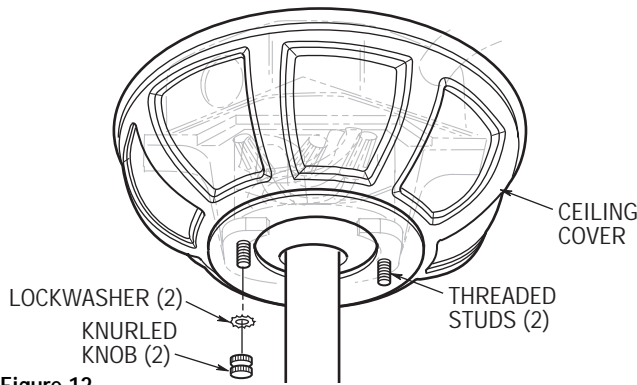

Figure 12
- 5. Lift the ceiling cover up to the threaded studs and turn until the studs protrude through the holes in the ceiling cover (Figure 12).
- 6. Secure the ceiling cover in place by sliding lockwashers (supplied) over the threaded studs and installing the two knurled knobs (supplied). (Figure 12.) Tighten the knurled knobs securely until the ceiling cover fits snugly against the ceiling.